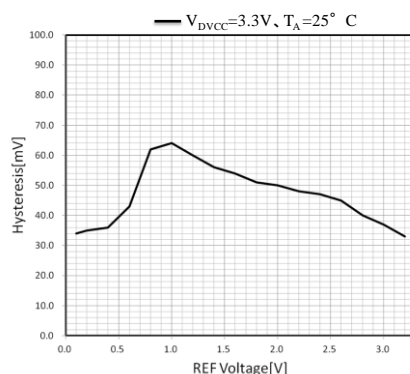

Figure 29-2. Comparator Hysteresis
(2) For the hysteresis characteristics, see Figure 29-2.